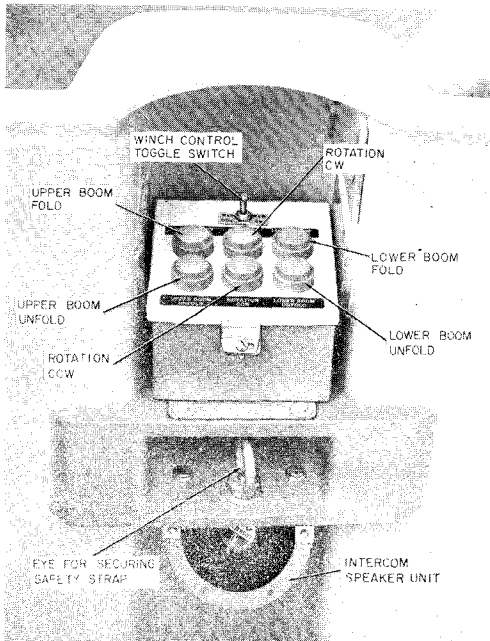

Fig. 2—Controls in Platform
2.02 The lift may be operated from either of two control positions. One control head is mounted in the platform. The other is located on the turret. The controls on the turret override the controls in the platform, thereby making it possible to lower an injured employee to the ground even if the control in the platform is actuated. Each control head includes controls for the upper boom (FOLD-UNFOLD), rotation (CW-CCW), and lower boom (FOLD-UNFOLD). Winch control toggle switches (IN-OFF-OUT) are located in the platform and on the outside of the left forward portion of the truck body. A winch speed control, OFF-1 (low speed) -2 (high speed), and the winch ENGAGE-DISENGAGE lever are also located on the outside of the left forward portion of the truck body. The controls in the platform, the control panel on the turret, and the winch controls on the truck body are shown in Fig. 2, 3, and 4.